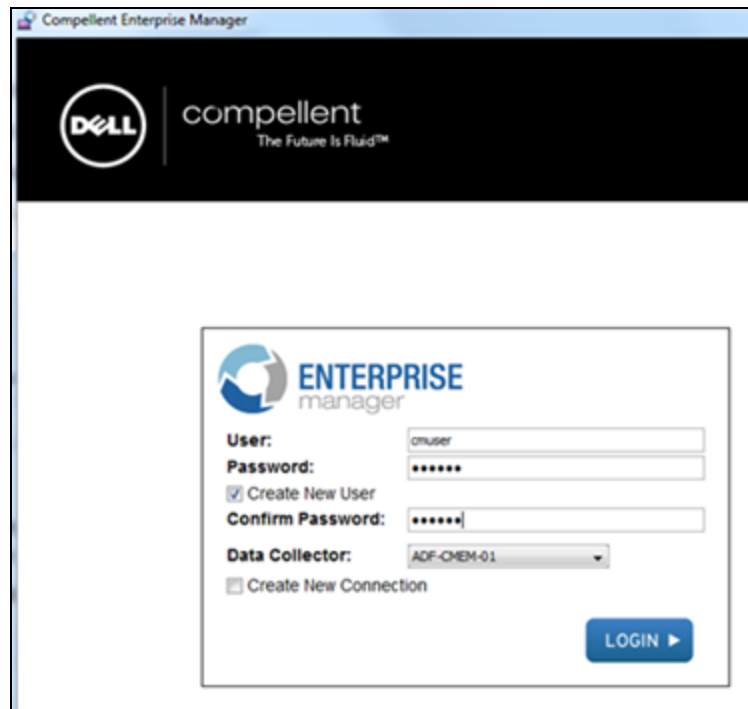

Figure 2.3: Adding a new user through the Compellent Enterprise Manager Client Application
6. If you have used the open security policy, then you can add the user through the Enterprise Manager Client Application. If you have used the Advanced security policy, then you can add the user from the Data Collector Manager Interface. Since we have used the open security policy, the user is added through the Enterprise Manager Client Application (see Figure 2.3).
7. Select the **Create New User** check box (see Figure 2.3) and then specify the **User** which is the same as the local user that you have created on the Windows server.